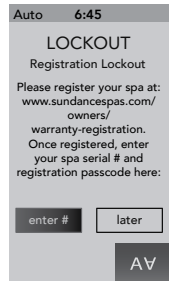
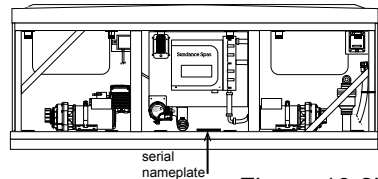

Figure 10.2a
Figure 10.2b
Registering your spa is important in order to validate your warranty. In order to register you will need to have the spa serial number, Figure 10.2b, then you will need to register online in order to receive a passcode. A passcode is only given for North American models only. The passcode must be entered into the control panel in order to unlock the Registration Lockout screen, Figure 10.2a.
1. From the registration screen, Figure 10.2a, tap **enter #** to enter the spa serial number.